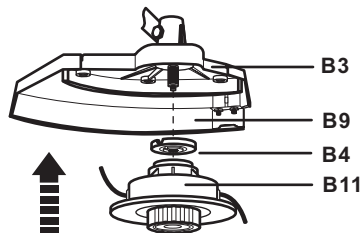

Fig. 6
- Screw the trimmer head (B11) on the spindle (B2). (See Fig. 6)